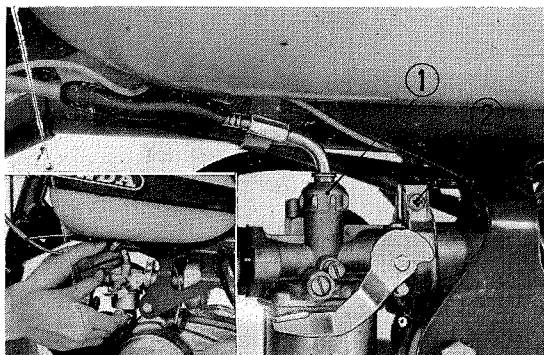

Fig. 18 ① Throttle cable lock nut ② Air cleaner case band screw
- 1) Loosen the throttle cable lock nut and separate the throttle cable from the carburetor. (Fig. 18)
- 2) Unscrew an air cleaner case band screw and separate the air cleaner from the carburetor. (Fig. 18)